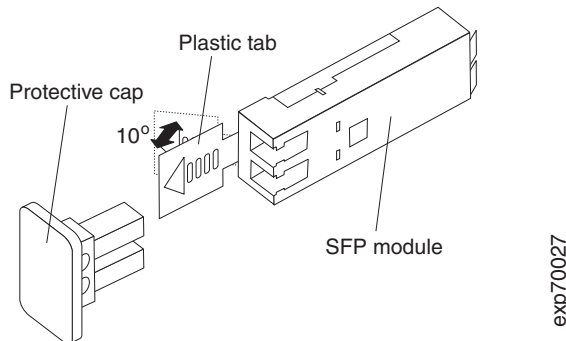

Figure 23. Unlocking the SFP module latch - plastic variety
- For SFP modules that contain plastic tabs, unlock the SFP module latch by pulling the plastic tab outward 10°, as shown in Figure 23.